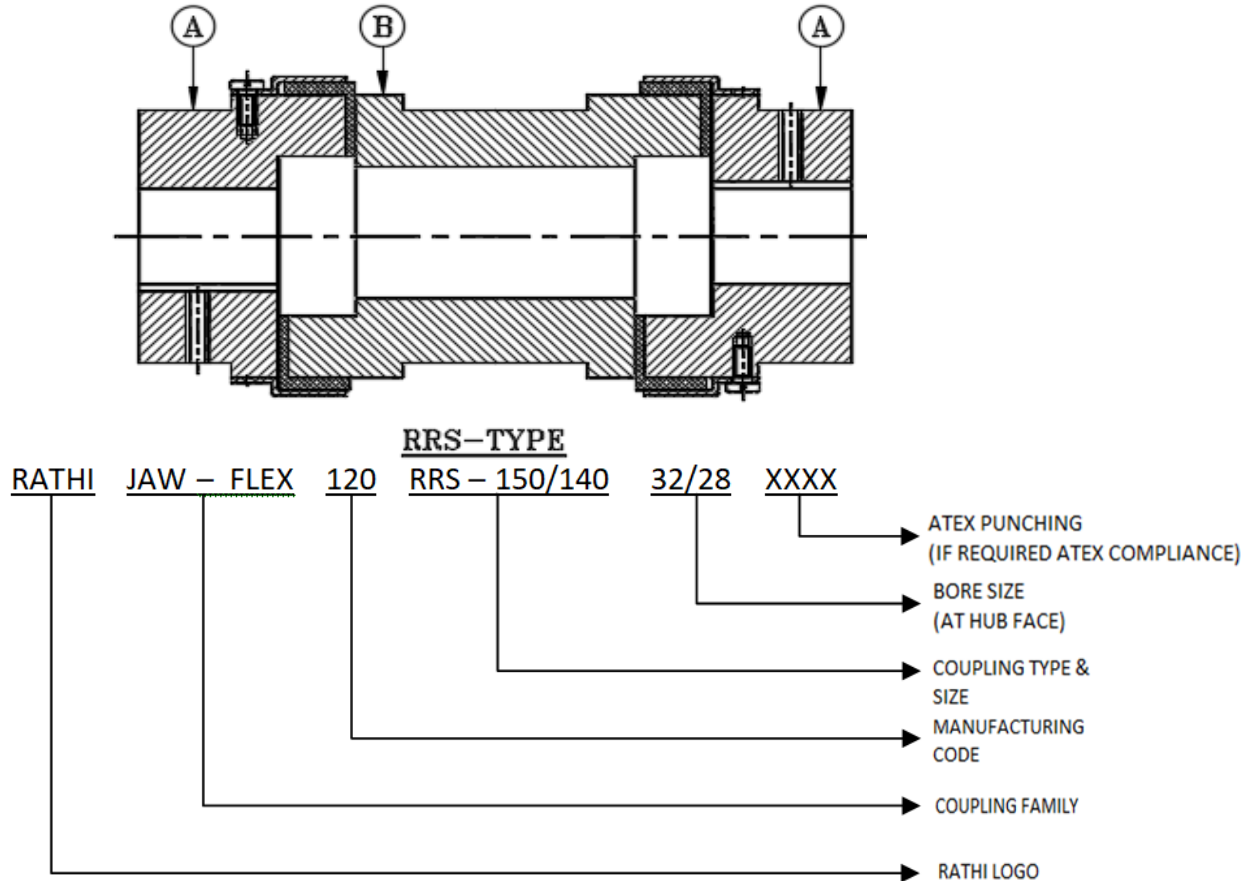

Fig. 5. Marking example
- The ATEX marking for JAW coupling will be given on outer surface or front side (Fig. 5).